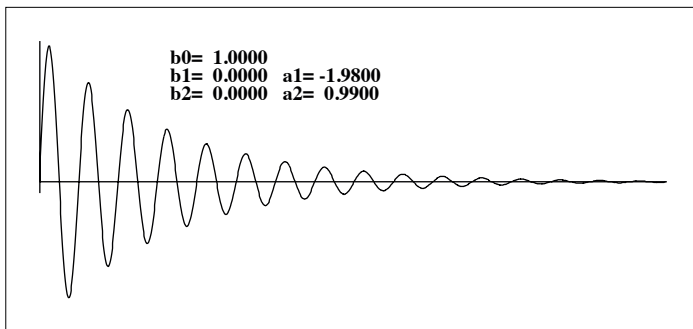

Figure 3. Impulse response of a biquad stage.
**Figure 3** shows the impulse response (the output when presented with the input sequence ..., 0, 0, 0, 1, 0, 0, 0, ...) of a biquad stage: the similarity of the waveform to that produced by a resonant circuit is clear. Biquad filter stages are indeed also used in analog circuit technology when it is required to construct a complicated filter.